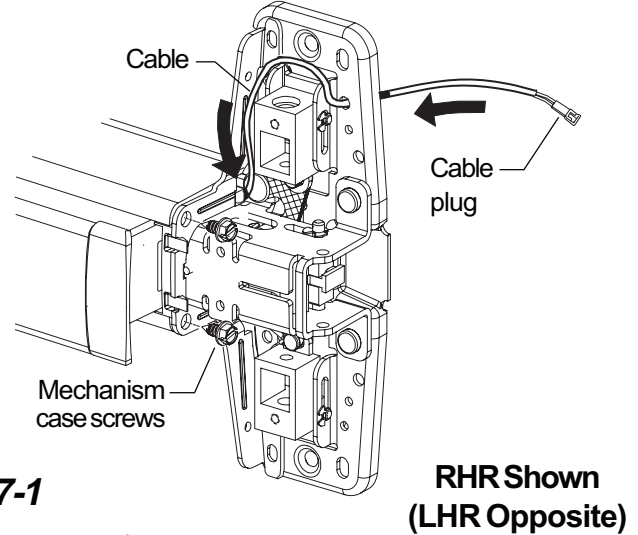

Figure 7-1
7.1. Remove two mechanism case screws (Figure 7-1).
7.2. Route E996 cable through hole in center case as shown (Figure 7-1). Cable plug should be on bottom side of center case as shown (Figure 7-1).
7.7. Reinstall two mechanism case screws (Figure 7-1).